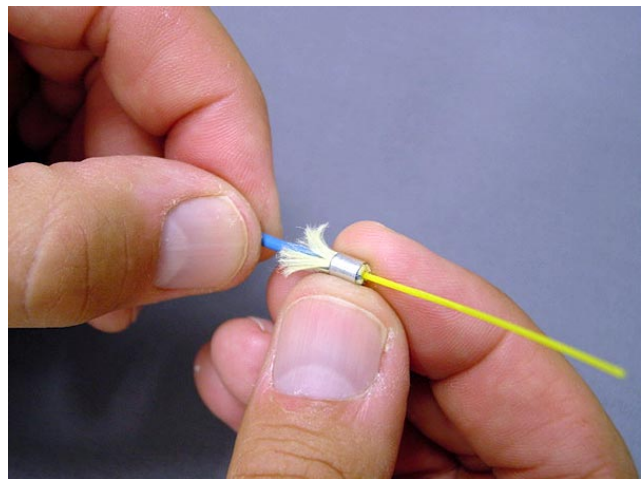

Figure 67
11. Fold the aramid yarn and jacket back and slide eyelet on to as shown in Figure 67. Repeat for second end.